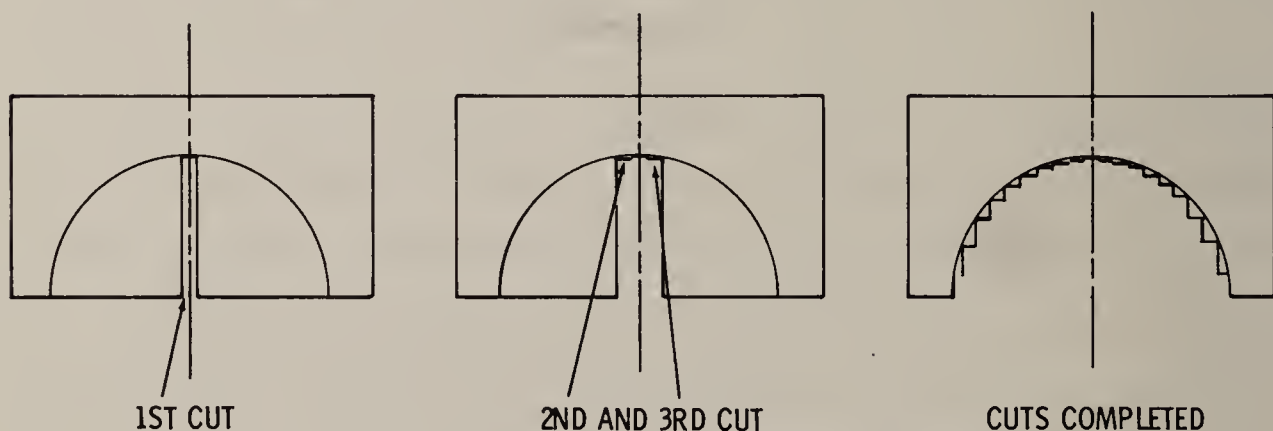

Fig. 21. Kerf method of contour cutting.
Adjust the saw blade for the deepest kerf and cut on center line of stock as illustrated in Fig. 21.
2. Move the fence $\frac{1}{8}$ inch away from the saw blade and decrease the depth of the kerf to follow the contour line. Cut on both sides of the first kerf, holding each edge against the ripping fence (Fig. 21).
3. Continue moving the fence and changing depth of cut until the shape is roughed out as shown in Fig. 21.